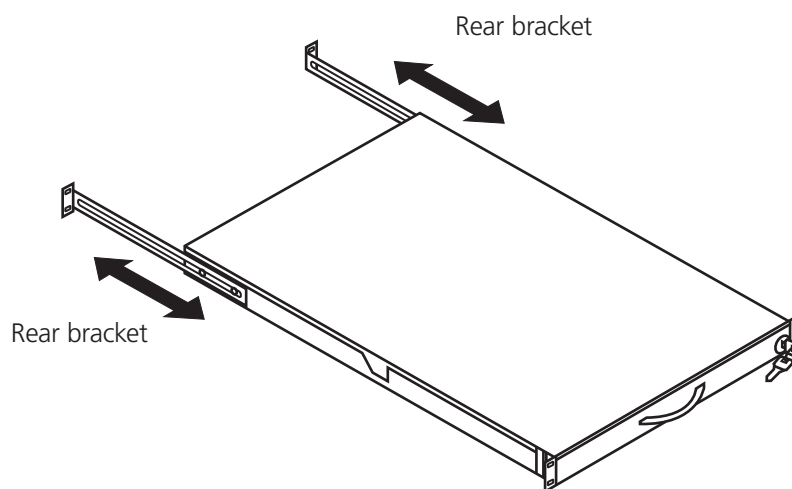

Figure 3-2. Aligning the rear L-brackets to a suitable length for the rack.
3. Align each rear L-bracket to a suitable length and tighten the fasteners shown in Figure 3-2.